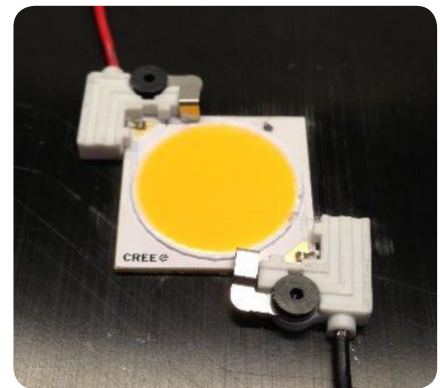

Figure 1: Connector attached to CXA3050 LED integrated array
3. Attach the LED input wires to the connector, shown in Figure 1.